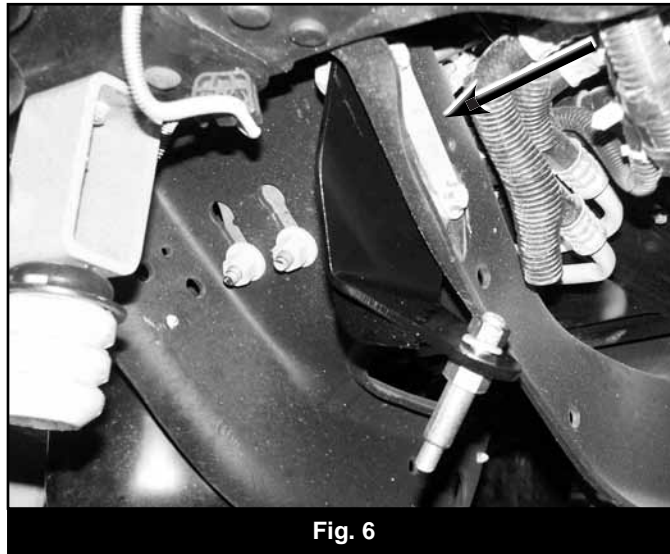

Fig. 6
19. Install the new steering stabilizer bracket to the frame using the original hardware (Fig 6). Mount the stabilizer bracket to the back side of the frame crossmember in the original mounting holes. Torque hardware to 55 ft-lbs.
20. Install the provided shock stud in the new stabilizer bracket up through the bracket so that the stud points down (Fig 6). Torque to 50 ft-lbs.